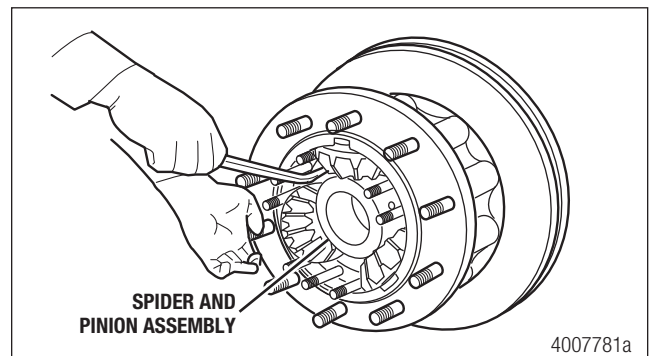

Figure 13.25
4. Install the spider and pinion assembly into the hub. Figure 13.25.